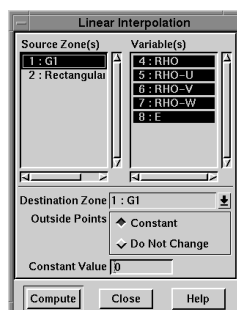

Figure 24-24. The Linear Interpolation dialog.
3. From the Data menu, choose Interpolate, then choose Linear. The Linear Interpolation dialog appears, as shown in Figure 24-24.